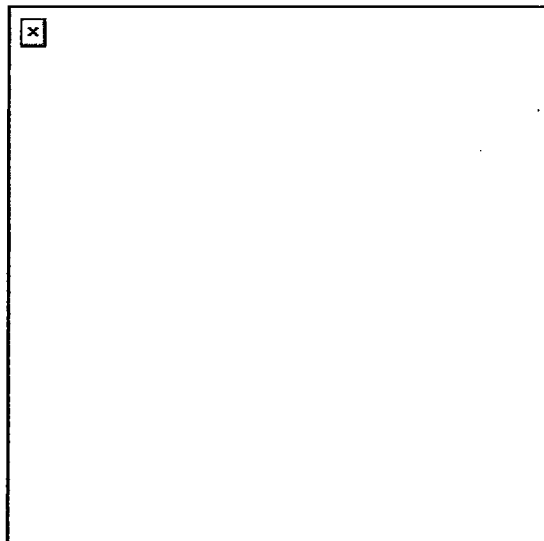

Figure 3. Range determination using horizontal lines.
- (1) Place the left edge of the vehicle at the left side of the horizontal line (Figure 3).
- (2) Read the range to the tank from the scale at the right edge of the tank. As shown in A, Figure 3, the range to the vehicle is 1,000 meters.
- (3) When viewed from the front or rear, the vehicle width is about half the length. Read the placement of the vehicle width on the range scale as half the range scale value. As shown in B, Figure 3, the range to the vehicle is 400 meters.